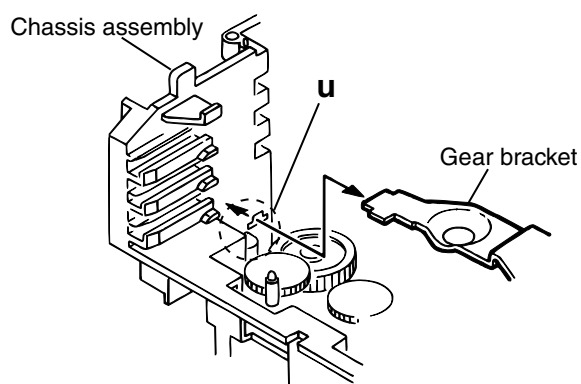

Fig.19
3. From the notch **"u"** section on the chassis assembly fixing the edge of gear bracket, remove and take out the gear bracket(See Fig. 19).